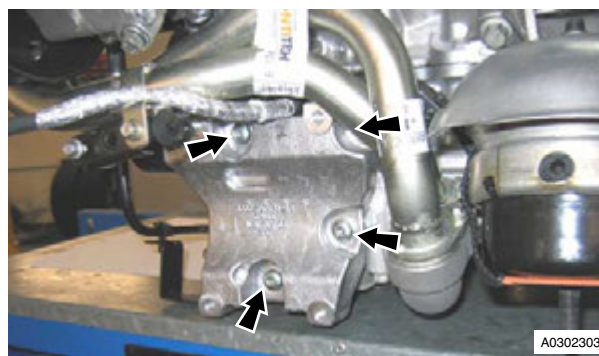

Figure 10
19. Remove bolts (x4) securing A/C compressor to mounting bracket. Remove compressor (see Figure 10).